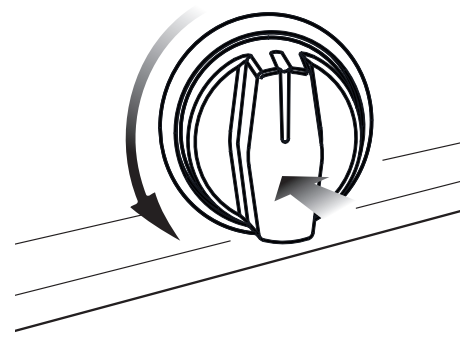

Fig. 3.4
- 2) Press the oven control knob right down and turn counter-clockwise (fig. 3.4) to max position **550**.